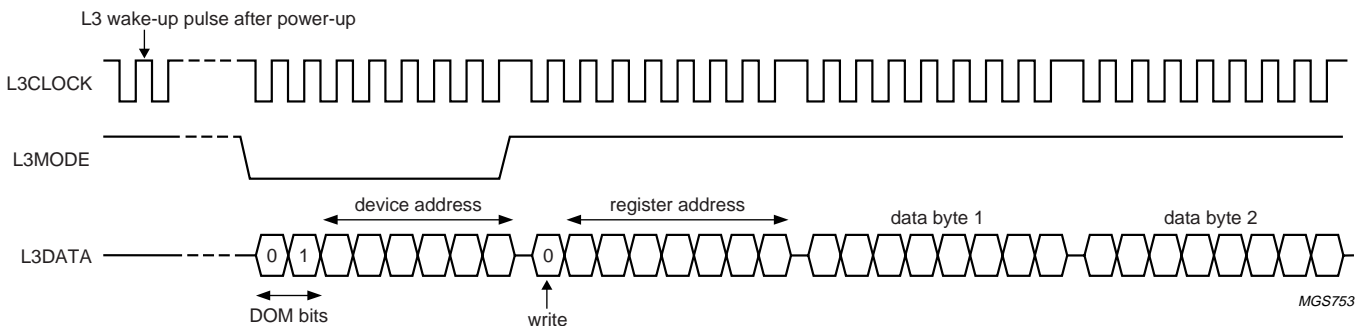

Fig.5 Data write mode (for L3 version 2).
The address mode is used to select a device for a subsequent data transfer. The address mode is characterized by L3MODE being LOW and a burst of 8 pulses on L3CLOCK, accompanied by 8 bits (see Fig.5). The data transfer mode is characterized by L3MODE being HIGH and is used to transfer one or more bytes representing a register address, instruction or data.
**Remark:** when the device is powered up, at least one L3CLOCK pulse must be given to the L3 interface to wake-up the interface before starting sending to the device (see Fig.5). This is only needed once after the device is powered up.
1. Addressing for write data: bit 0 is logic 0 indicating a write action to the destination register, followed by bits 1 to 7 indicating the register address (see Fig.5).
The data write mode is explained in the signal diagram of Fig.5. For writing data to a device, four bytes must be sent (see Table 6):